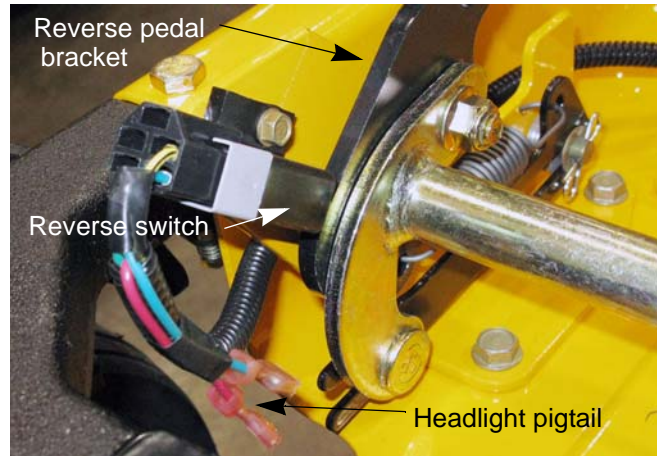

Figure 7.4
The Reverse Safety Switch is mounted on the right brake pedal shaft support bracket. It is the same part number as the parking brake switch. It has two sets of contacts, but only the normally open (NO) set is used. See Figure 7.4.